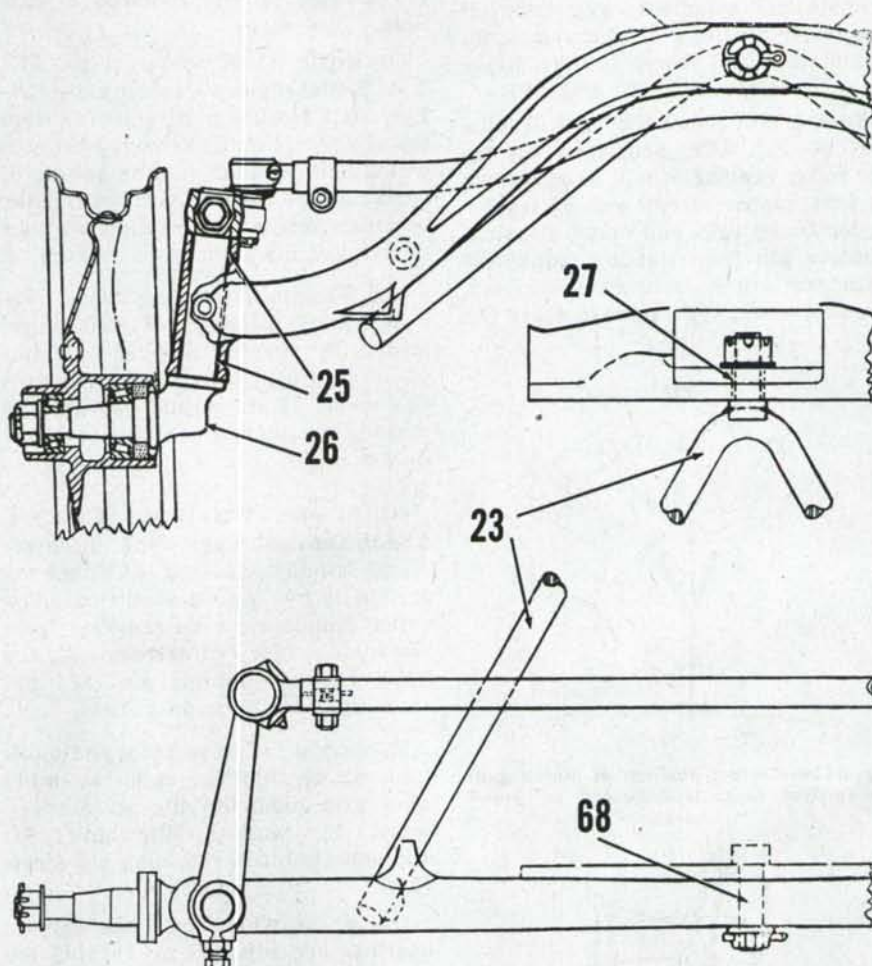

Fig. AC14—Model B non-adjustable axle version—front and top views.
5. Adjustable, Figs. AC2, 7, and 13, or non-adjustable, Figs. AC14 & AC15 type front axles are either offered or are available on all models. On all such models, the axle main member complete with wheel spindles or knuckles and wheels can be removed from the tractor as a single unit. Exact procedure varies with the various models, but is self-evident after observing the actual tractor. On B, C, CA, G, WD and WD45, the radius rod is integral (by being welded thereto) with the axle main member.